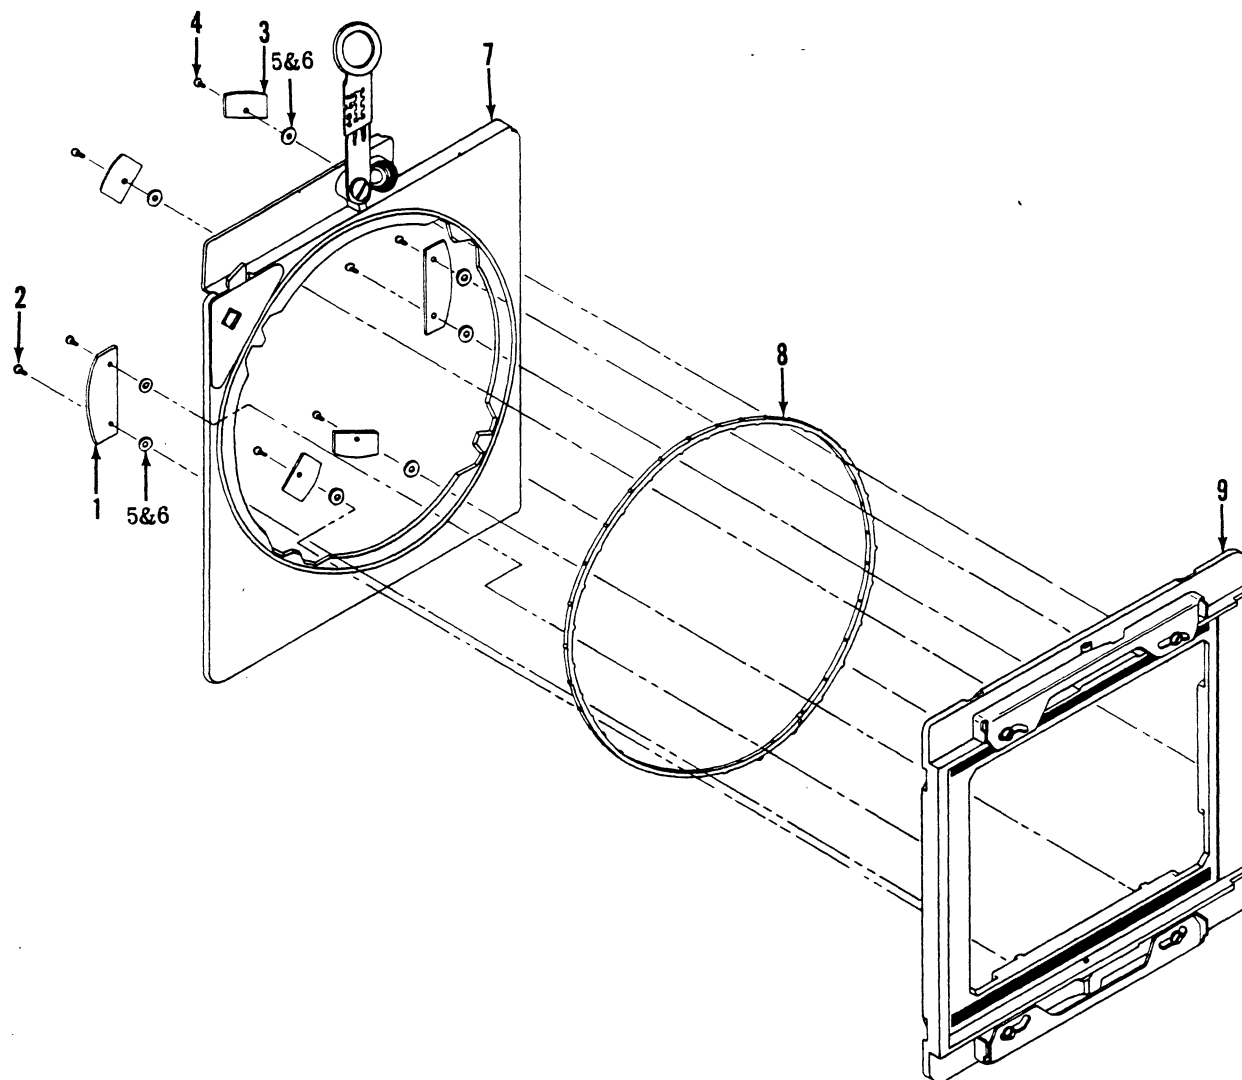
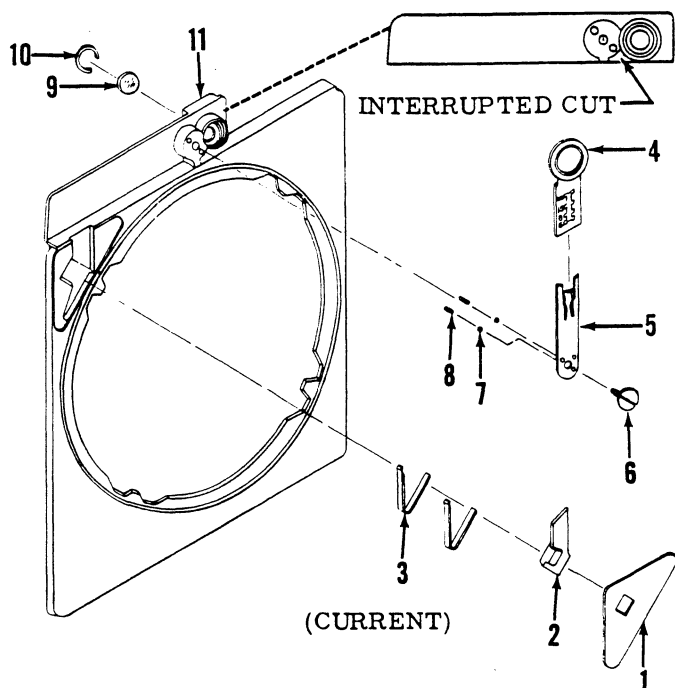
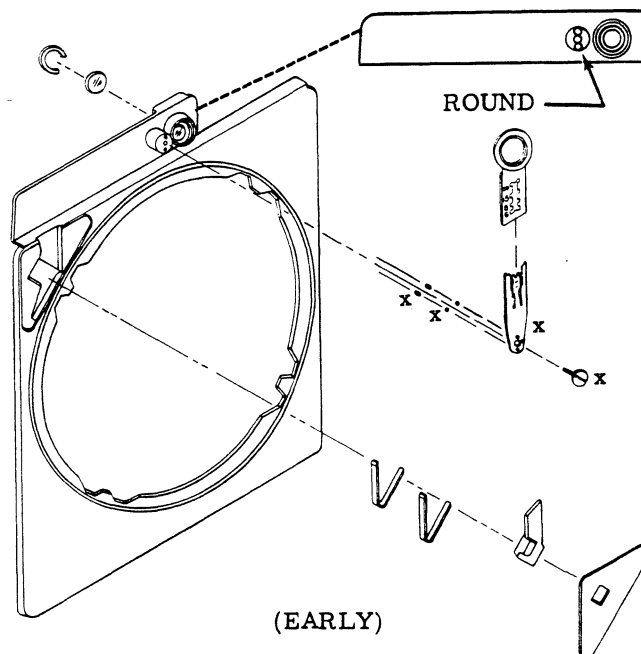

Figure 12. BACK ASSEMBLY
Figure 12A. STATIONARY FRAME COMPLETE
Figure 12B. STATIONARY FRAME COMPLETE
X..BACK ASSEMBLY - DISASSEMBLY AND REASSEMBLY (Figure 12)**1. Disassembly**
a. Remove four machine screws (2), four machine screws (4), two retainers (1), four retainers (3), washers (5 & 6, used as required), and stationary frame complete (7). If disassembly of the stationary frame complete is necessary, see Par. X. 1.
b. Remove revolving ring (8) from grooved track of the revolving frame complete (9). If disassembly of the revolving frame complete is necessary, see Par. X. 2.
NOTE: A change has been made on the stationary frame as illustrated in figures 12, 12A & 12B. Disassembly and reassembly procedures remain the same. Items marked x in figure 12B are not interchangeable with corresponding items in figure 12A. When ordering replacement parts, refer to the correct parts list.
X. 1. STATIONARY FRAME COMPLETE - DISASSEMBLY AND REASSEMBLY (Figure 12A)
a. Remove cemented release button cover (1). Remove release button (2) and two button springs (3) from cavity in stationary frame.
b. Remove peepsight assembly (4).
c. Remove peepsight carrier (5) by removing machine screw (6), two steel balls (7) and two carrier springs (8).
d. Remove rear window (9) from stationary frame assembly (11) by removing retaining ring (10).
a. Assemble rear window (9) and retaining ring (10) in stationary frame assembly (11).
b. Insert two carrier springs (8) into two small holes in boss of stationary frame for carrier peepsight mounting. Apply a light coat of Dow-Corning #44 Silicone grease to two steel balls (7) and place a ball over each carrier spring. Apply paraffin to two sides of peepsight carrier (5) and apply Neolube to underside of head of machine screw (6). Position peepsight carrier in place and secure with machine screw.
c. Assemble peepsight assembly (4) to peepsight carrier.
d. Assemble two button springs (3) in cavity of stationary frame. Apply a light coat of Dow-Corning #44 Silicone grease to release button (2) and position in place. Apply 3M 776 adhesive to area around cavity opening in stationary frame, keeping within .050 in. from edges of cavity. Assemble release button cover (1) and remove excess adhesive.